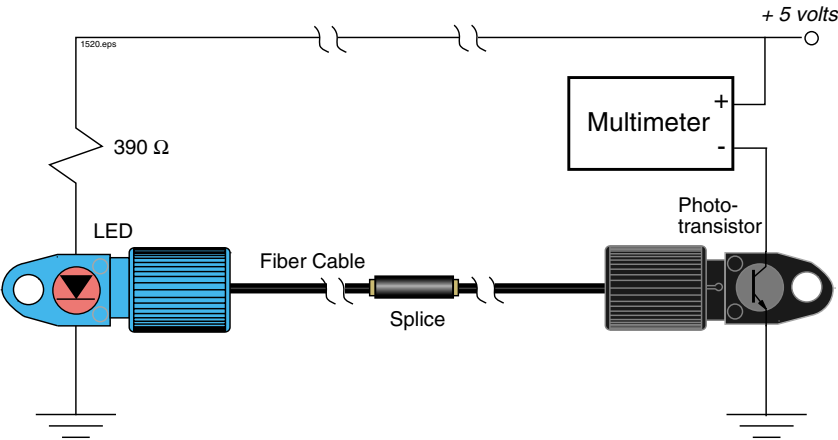

Figure 5.3 Test diagram for measuring photodiode current with a fiber splice installed.
- 2. Assemble the electrical circuits shown in **Figure 5.3** on your solderless breadboard.